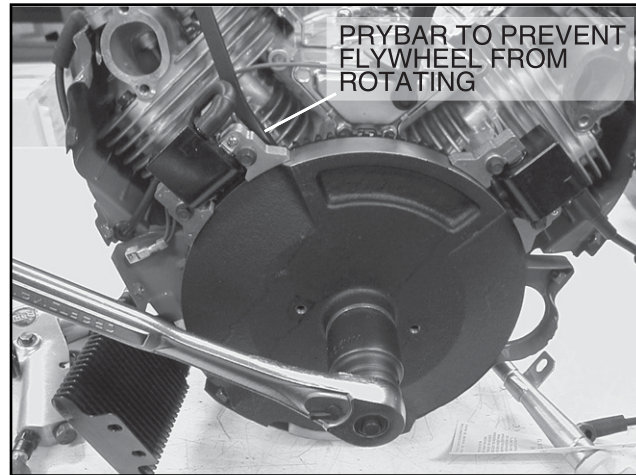

Figure 2-4. Removing Flywheel Nut
1. Remove flywheel nut and washer, Figure 2-4.